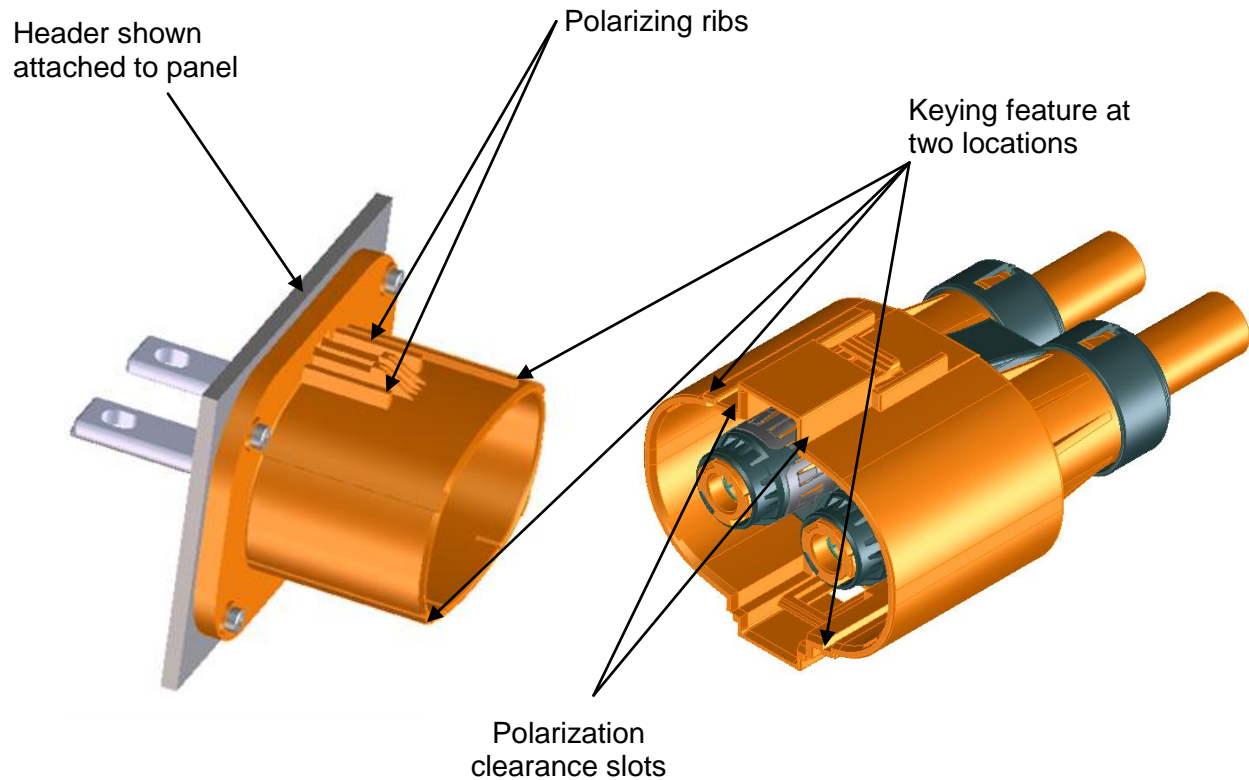

Figure 7
7.1 Align Receptacle Harness to the Header. Verify polarization ribs and keying features on the header align to polarization towers on the Receptacle Harness in (Figure 7).